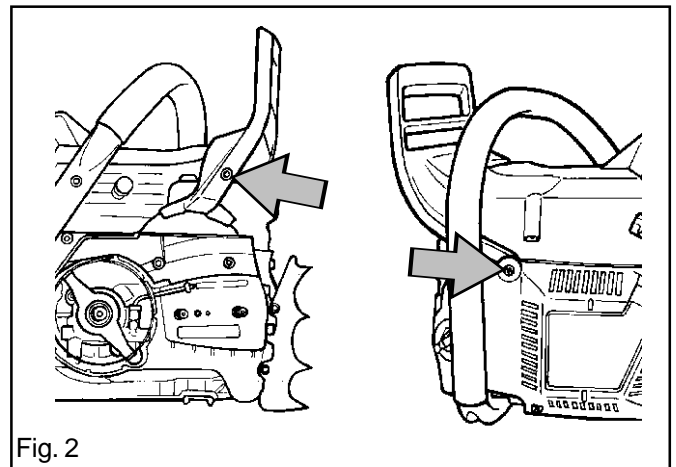

Fig. 2
3. Remove the hand guard, two screws. Note the sleeve on the starter side. See fig. 2.
7. Fit the hand guard with the sleeve on the starter side. See fig. 2.